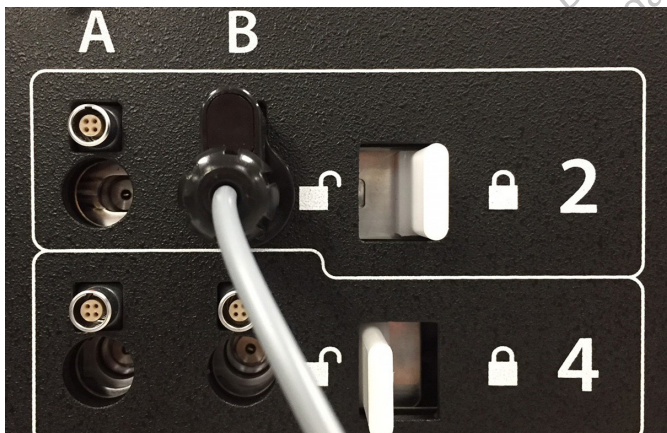

Figure 14. Locking Needle into Channel
5. After a needle is inserted into the desired channel, lock the channel by sliding the locking bar away from the center of the system (Figure 14).